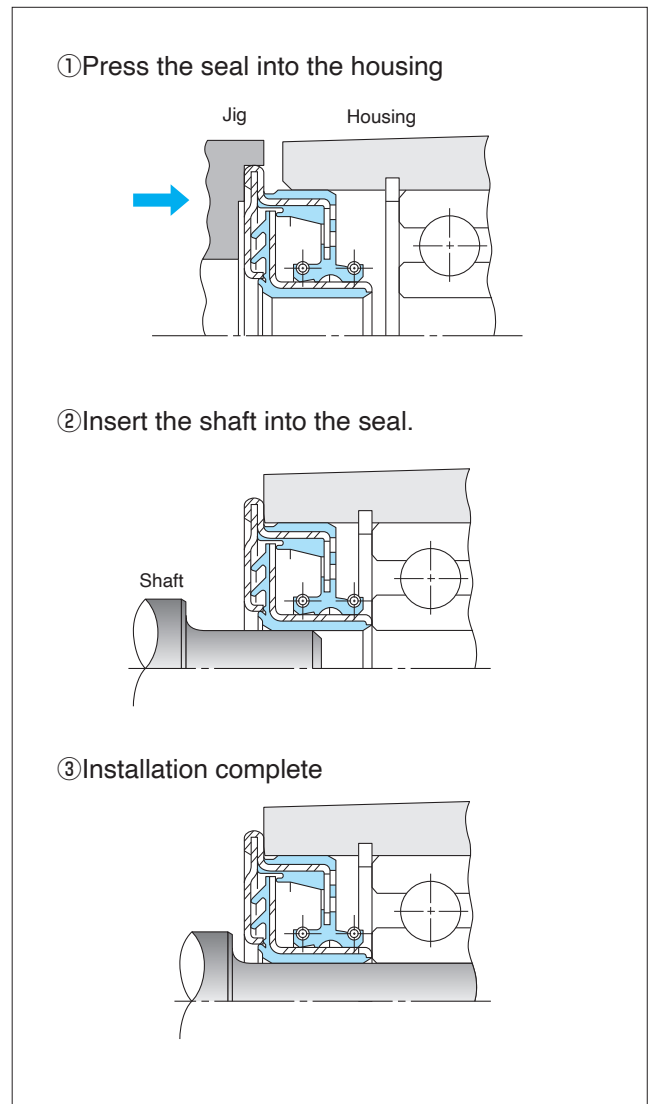

Fig. 7-15 Mounting a QLFY Type Seal
- ❶ Use a jig as illustrated in Fig. 7-15 to press the QLFY seal into the housing bore.
- ❷ Insert the shaft.